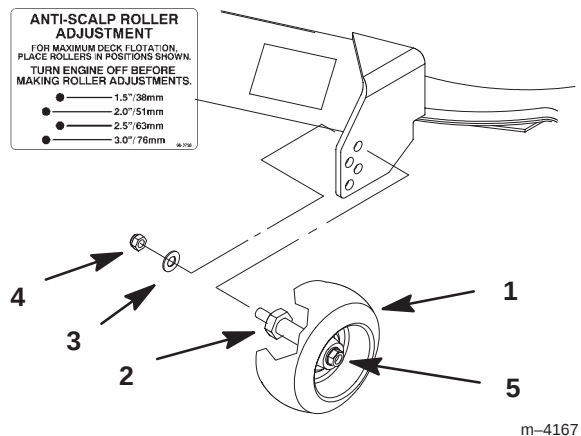

Figure 13
2. After adjusting height-of-cut remove nut and washer while holding stud with wrench (Fig. 13).
3. Select hole so gage wheel is positioned to the nearest corresponding height-of-cut desired (Fig. 13).
4. Reinstall the stud nut and washer (Fig. 13).
Note: Do not remove the wheel nut and washer (Fig. 13).